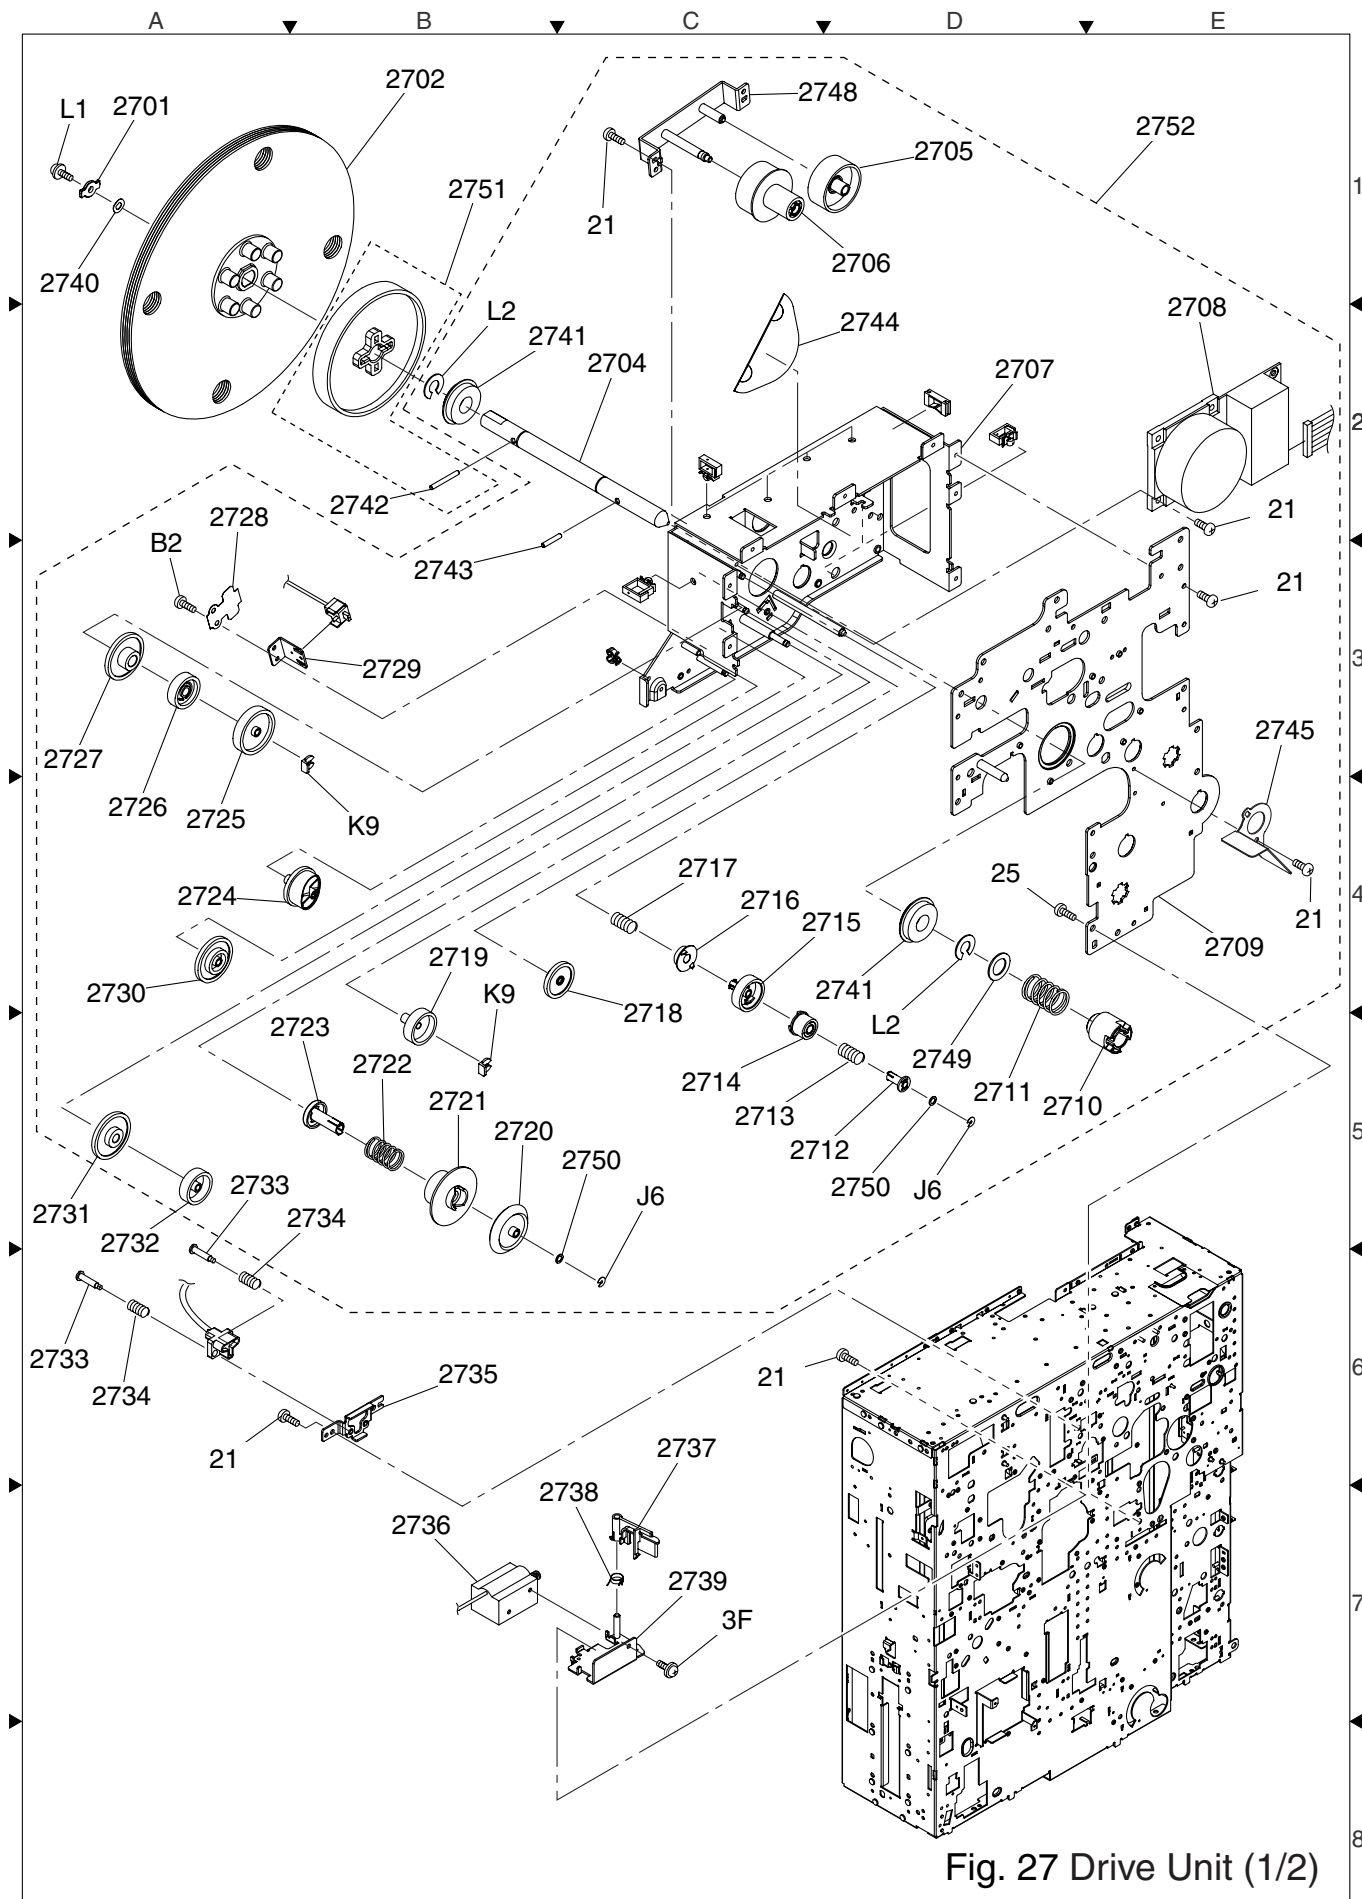

Fig. 27 Drive Unit (1/2)
* This Kit includes the parts shown in Fig. 27, Fig. 28 and Fig. 36.